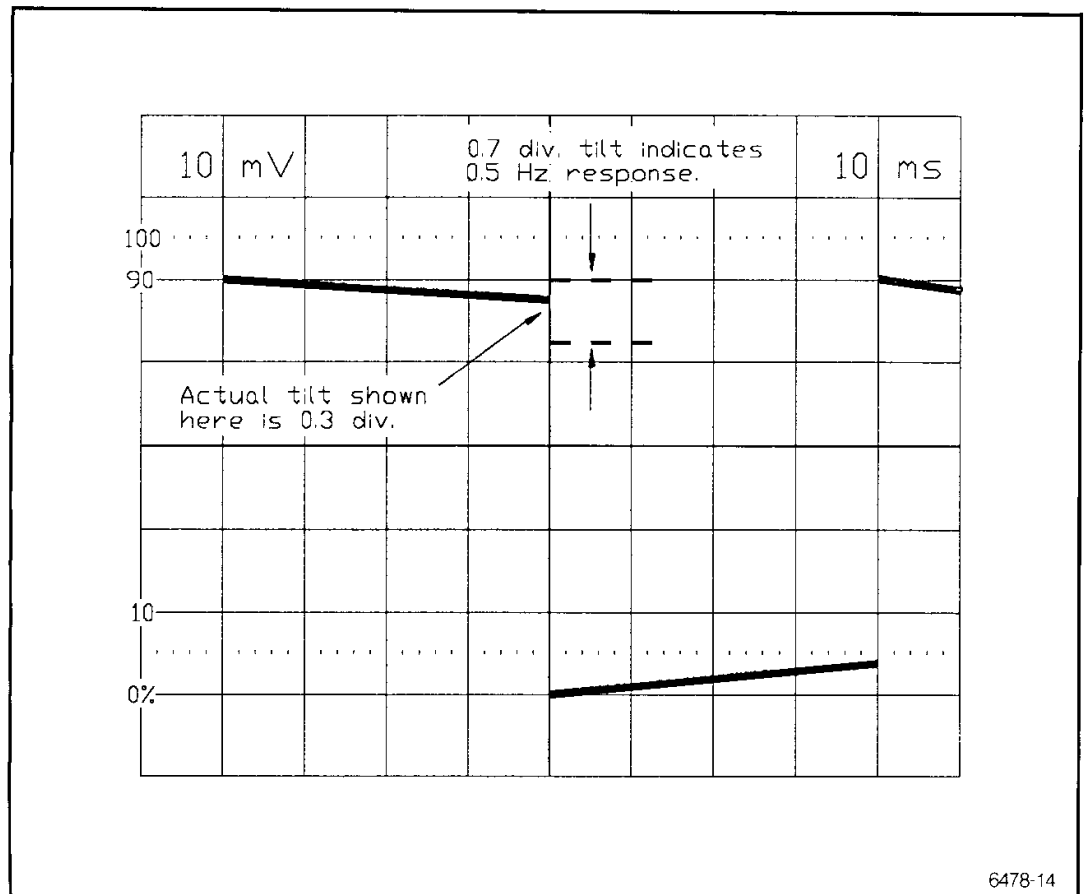

Fig. 4-2. Typical response of the CT-4 with the A6302/AM503B to a low-frequency square wave. A tilt of 0.7 division indicates a -3 dB response of 0.5 Hz.
g. Measure the tilt of the positive half-cycle. The tilt should be 0.7 division or less, indicating a low-frequency response of 0.5 Hz or lower (see Fig. 4-2).